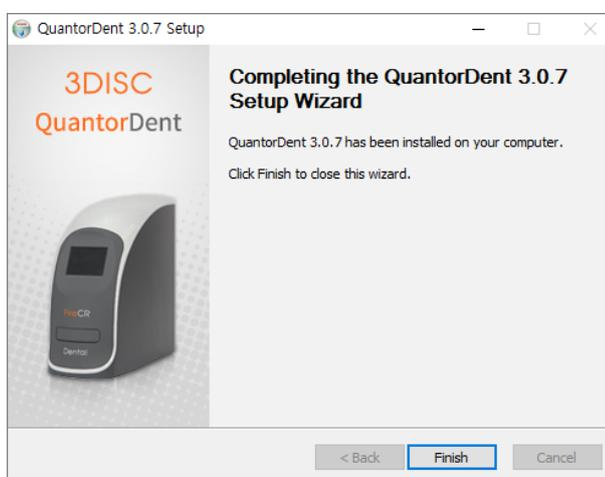

Figure 2.26 Installation Finish Dialog Box
- If installation is successful, Figure 2.26 will show up.